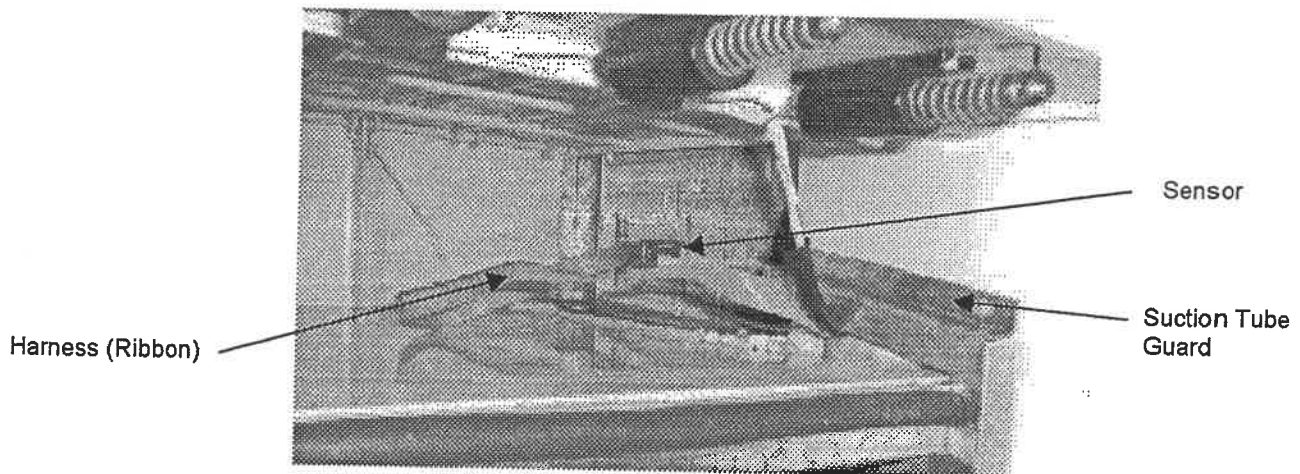

Figure 3
6. Remove the suction tube guard. See figure 3 on page 3.
11. Plug one end of the ribbon harness on the sensor. See figure 3 on page 3.